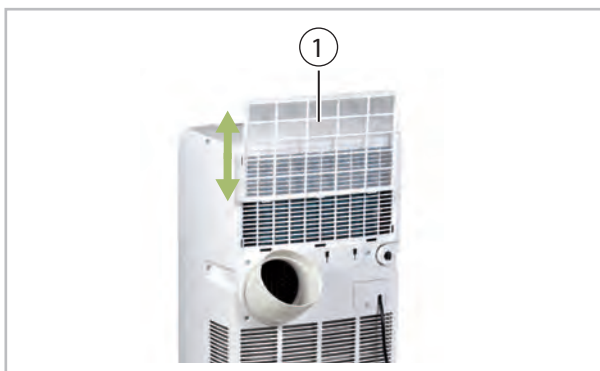

Fig. 15: Filter removal
2. ➤ Pull the filter out of the unit (Fig. 15)